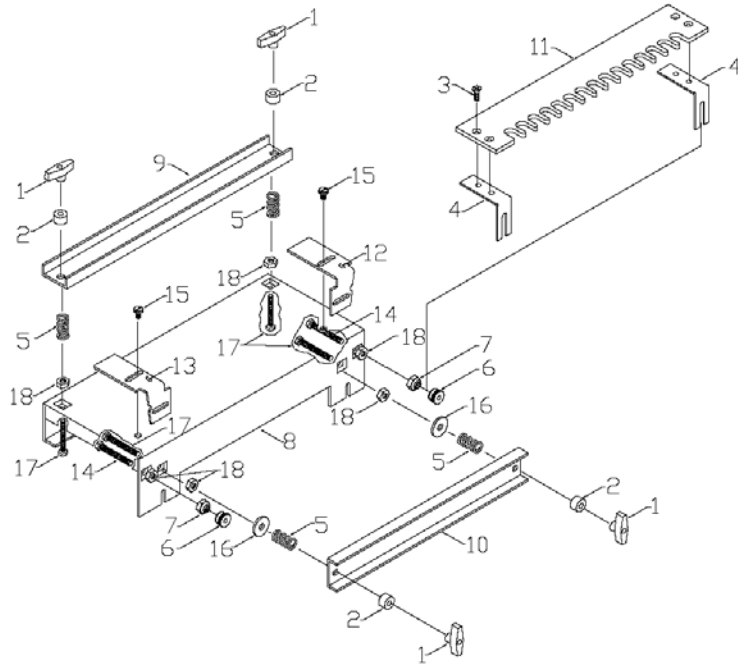
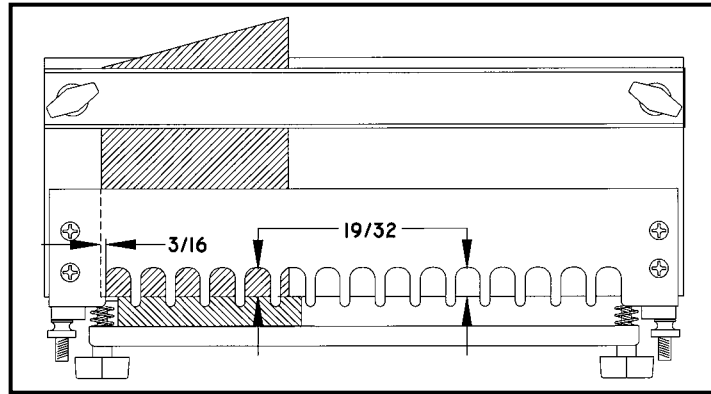

Fig. 1
Fig. 8
Refer to Fig. 1 for the various parts of the Model 4112 Dovetail Machine.
Front to back positioning of the templets is accomplished by varying the location of the locknuts (Item 7, Fig. 1).
2. Loosen edge guide retaining screw, (Item 15, Fig. 1) and slide edge guide to drawer front and secure in place.
3. Place the  $\frac{1}{2}$ " half-blind dovetail templet on top of drawer front and adjust locknuts, Item 7, Fig. 1, so there is  $\frac{19}{32}$ " from back of templet slots to edge of drawer front at both ends of templet (see Fig. 8). Tighten knurled nuts, Item 6, Fig. 1, to secure templet in place.
4. Loosen top clamp bar and position drawer front so that the left edge is  $\frac{3}{16}$ " (see Fig. 8) past the left edge of the first templet slot and clamp in place.